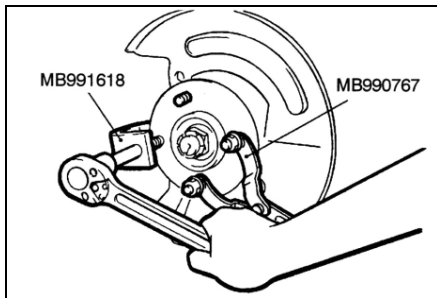

Fig.12-2
(1) Remove the caliper assembly and secure it with wire so that it does not fall, then remove the brake disc.
(2) Use the special tools to remove the hub bolts.(see Fig.12-2)。